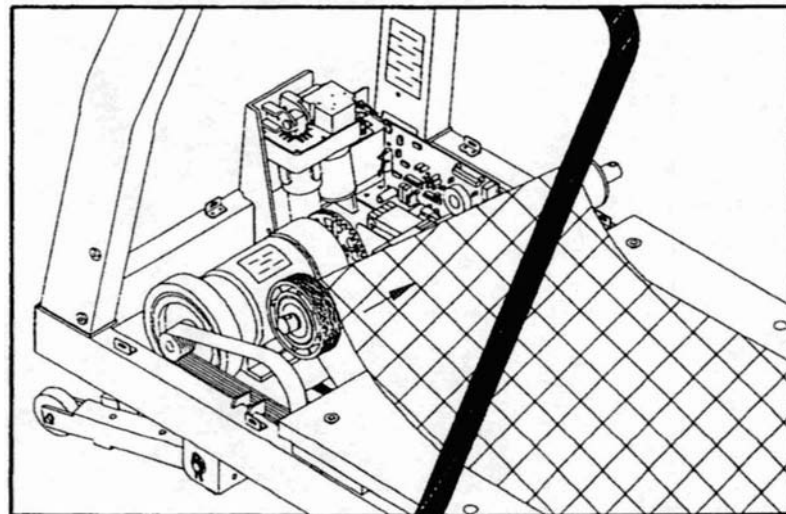

Fig.6
1.Place the new front roller through running belt into position.(see Fig.6)